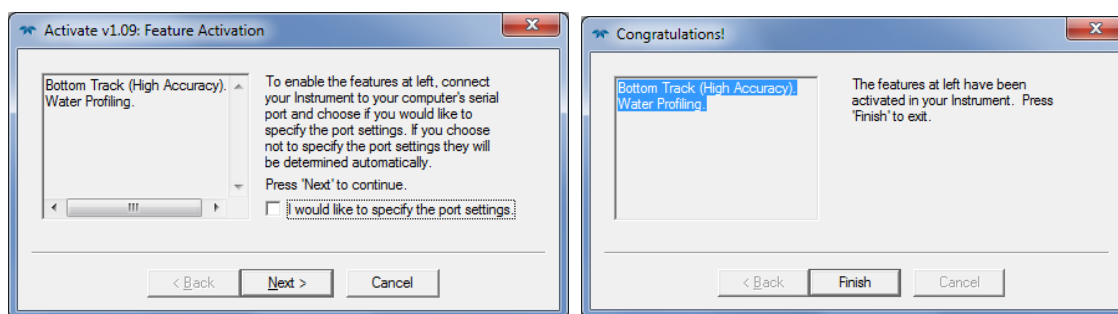

Figure 53. Installing Feature Upgrades
4. Double-click on the xxx.exe, where xxx is the DVL's CPU serial number. The installation program will start (see Figure 53). The program is encoded with the DVL's serial number and the requested feature upgrade.